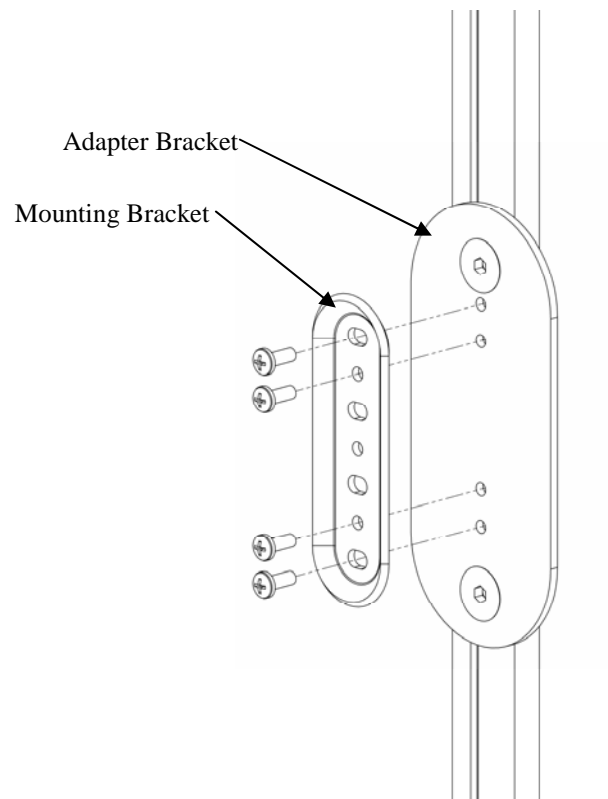

Figure 3
3. Install the mounting bracket to the adapter bracket (see Figure 3) secure using four 10-24 pan head screws.